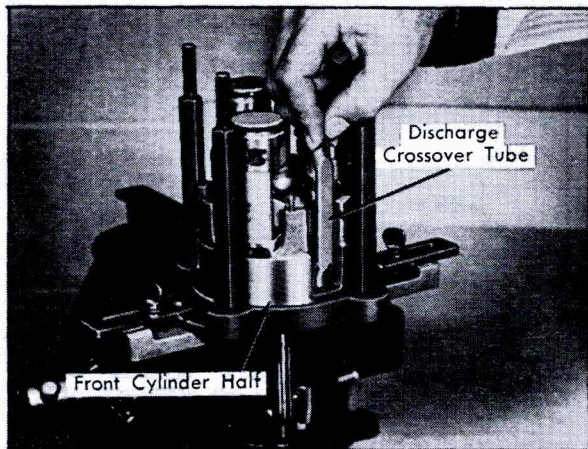

Fig. 1-68 Installing Discharge Crossover Tube
8. Install new discharge cross-over tube in front cylinder half with bridged surface facing outboard, Fig. 1-68. Make certain that end of tube is properly centered in hole in front cylinder half.